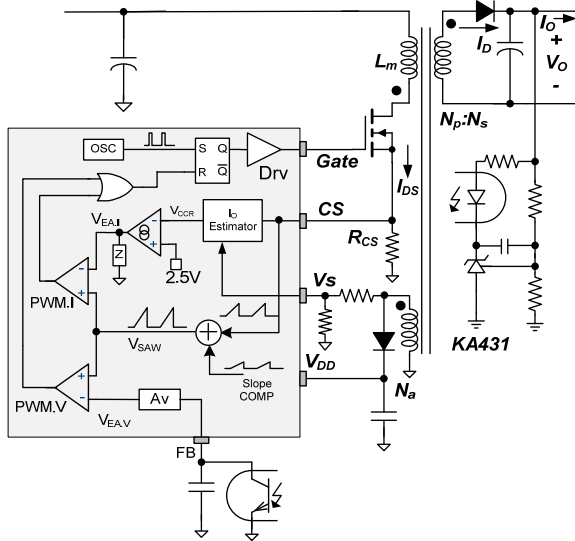
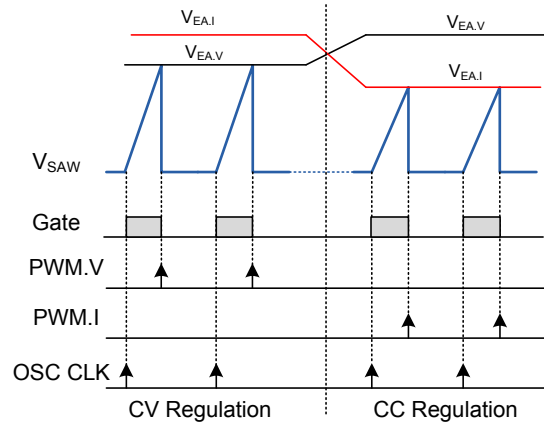

Figure 24. Internal PWM Control Circuit
Figure 25. PWM Operation for CC and CV
Figure 24 shows the internal PWM control circuit. The Constant Voltage (CV) regulation is implemented in the same way as in a conventional isolated power supply, where the output voltage is sensed using a voltage divider and compared with the internal 2.5V reference of shut regulator (KA431) to generate a compensation signal. The compensation signal is transferred to the primary side using an opto-coupler and scaled down through an attenuator, Av, generating V_{EA,V} signal. Then, the error signal V_{EA,V} is applied to the PWM comparator (PWM.V) to determine the duty cycle.
The two error signals, V_{EA,I} and V_{EA,V}, are compared with an internal sawtooth waveform (V_{SAW}) by PWM comparators PWM.I and PWM.V, respectively, to determine the duty cycle. Figure 24 shows the outputs of two comparators (PWM.I and PWM.V) combined with OR gate and used as a reset signal of flip-flop to determine the MOSFET turn-off instant. Of V_{EA,V} and V_{EA,I}, the lower signal determines the duty cycle, as shown in Figure 25. During CV regulation, V_{EA,V} determines the duty cycle while V_{EA,I} is saturated to HIGH. During CC regulation mode, V_{EA,I} determines the duty cycle while V_{EA,V} is saturated to HIGH.